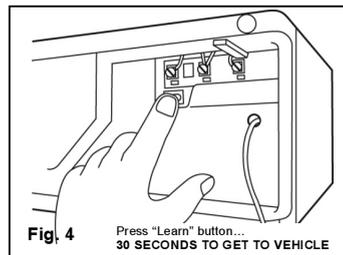

Fig. 4
8. Firmly press and release the "learn" or "smart" button. Fig. 4